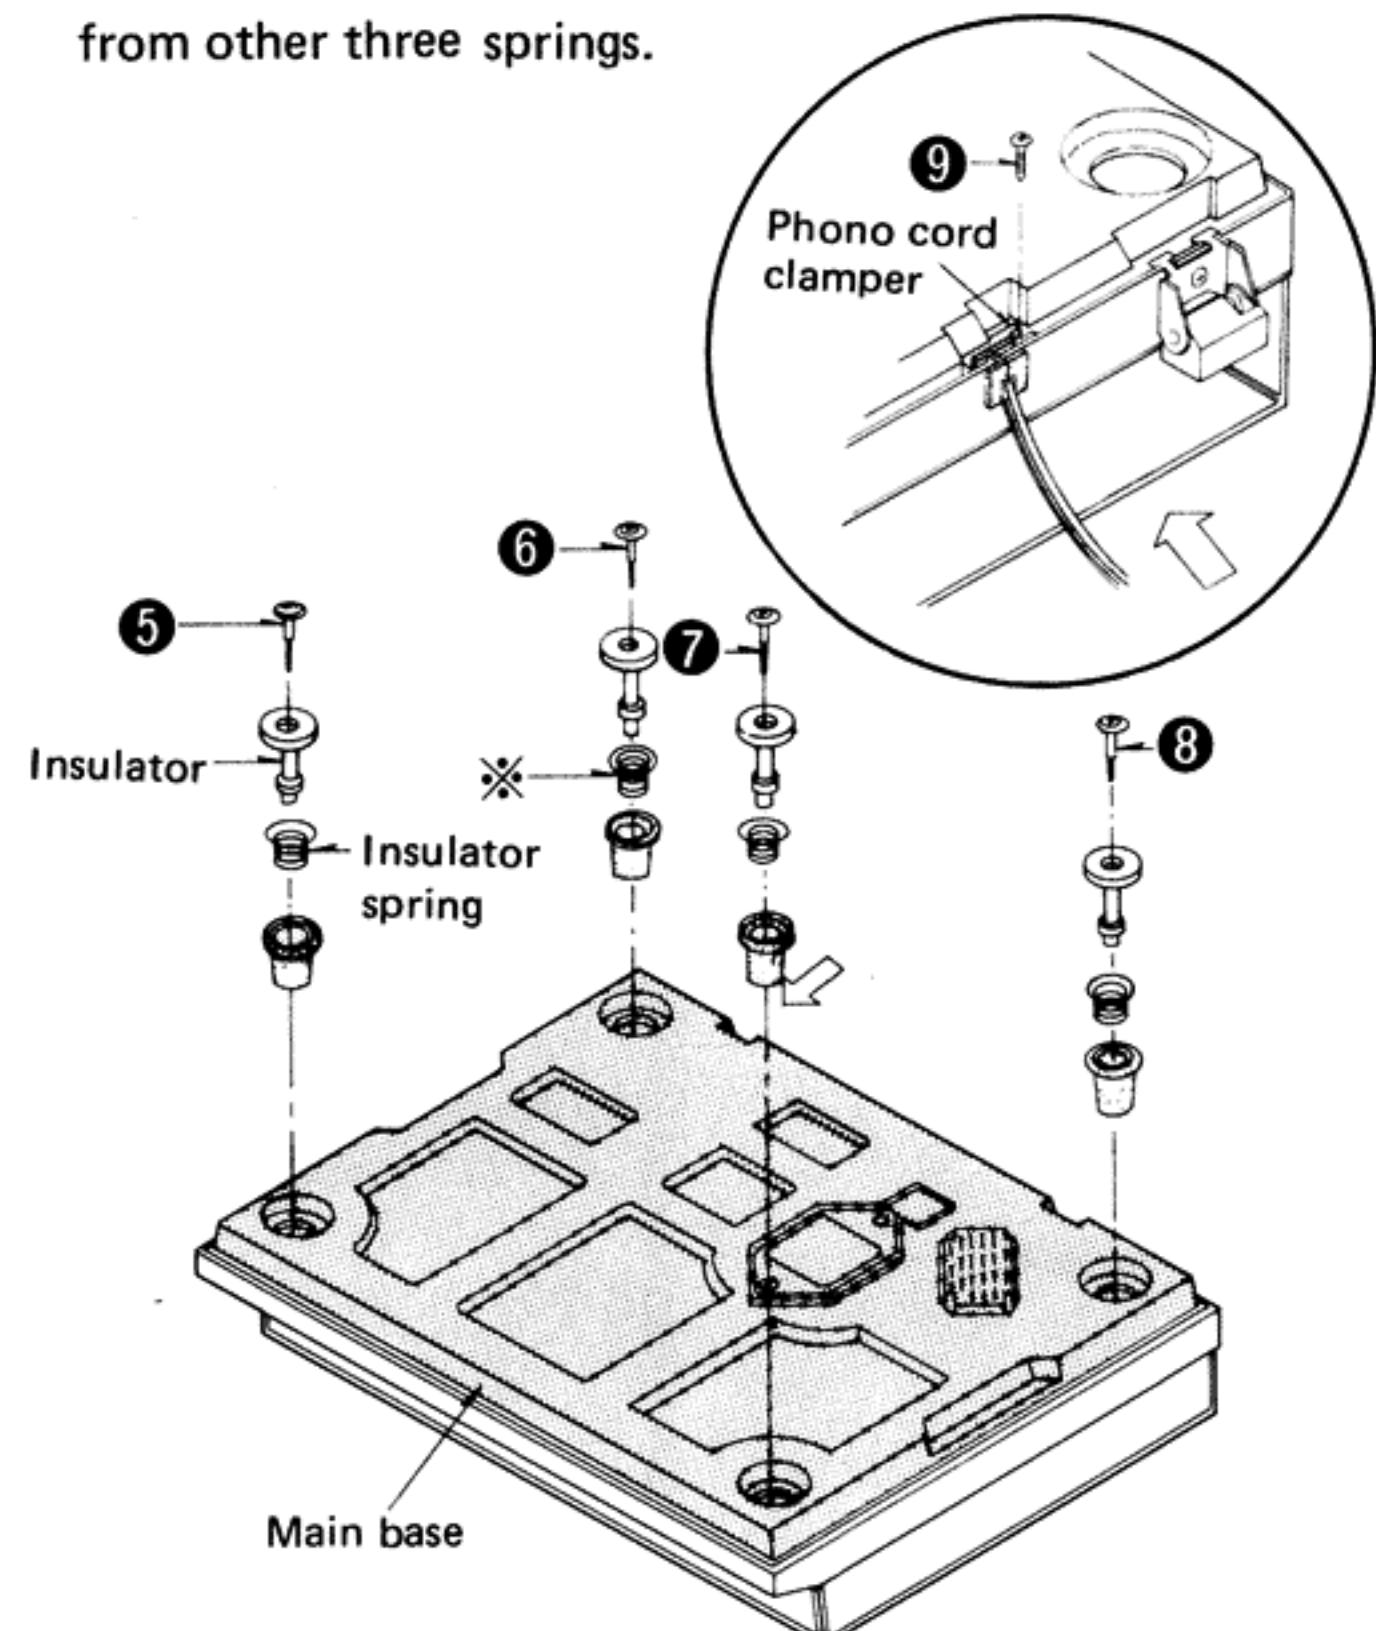

Fig. 2
5. Remove the insulator setscrews ⑤ ~ ⑧ and phono cord clamper setscrew ⑨. (See Fig. 2)